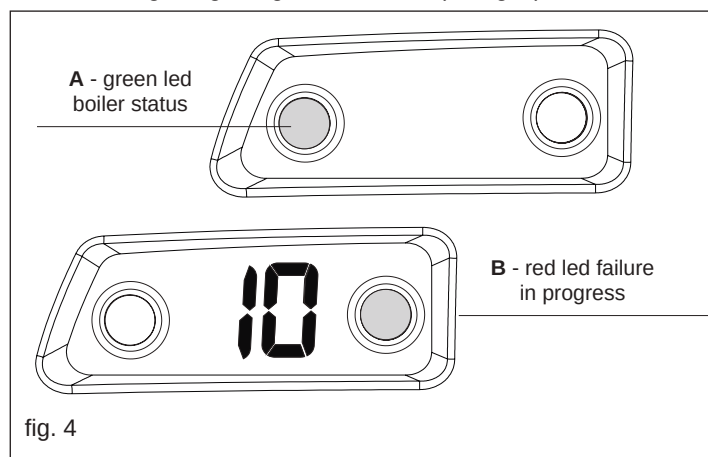

fig. 4
- if there is a heat request, the boiler starts and the flame comes on, while the signal light is green and fixed (A - fig. 4).
If there are any firing or operation faults, the boiler will make a "safety stop"; on the control panel the green led will go out, the display will show a flashing fault code and, in the event of a lockout also the red led (B - fig. 4) will come on.